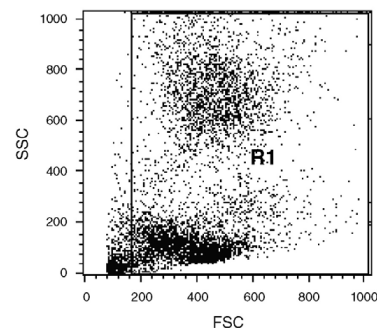

FIGURE 2. FSC VS. SSC DOT PLOT
- In set-up mode, place the DEAB control sample on the cytometer. Adjust FSC and SSC voltages and gains to center the nucleated cell population within the FSC vs. SSC plot. Create a region R1 that will encompass the nucleated cells based on scatter (refer to Figure 2 for sample plot).